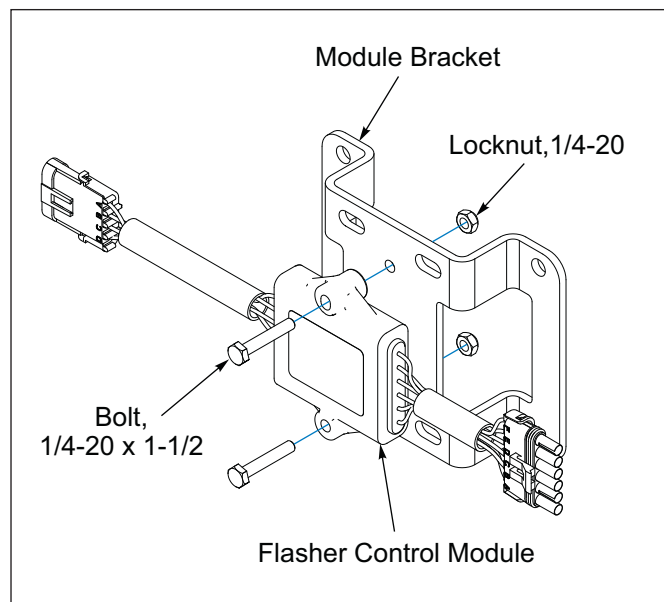

Figure 2-18: Flasher Control Module and Bracket
1. Place a Red Lamp at each end of the Light Bar and insert the Red Lamp Cord into the Light Bar cutout. Secure Red Lamp to Light Bar with 1/4-20 x 1-1/4 Bolts and Locknuts. **See Figure 2-18.**